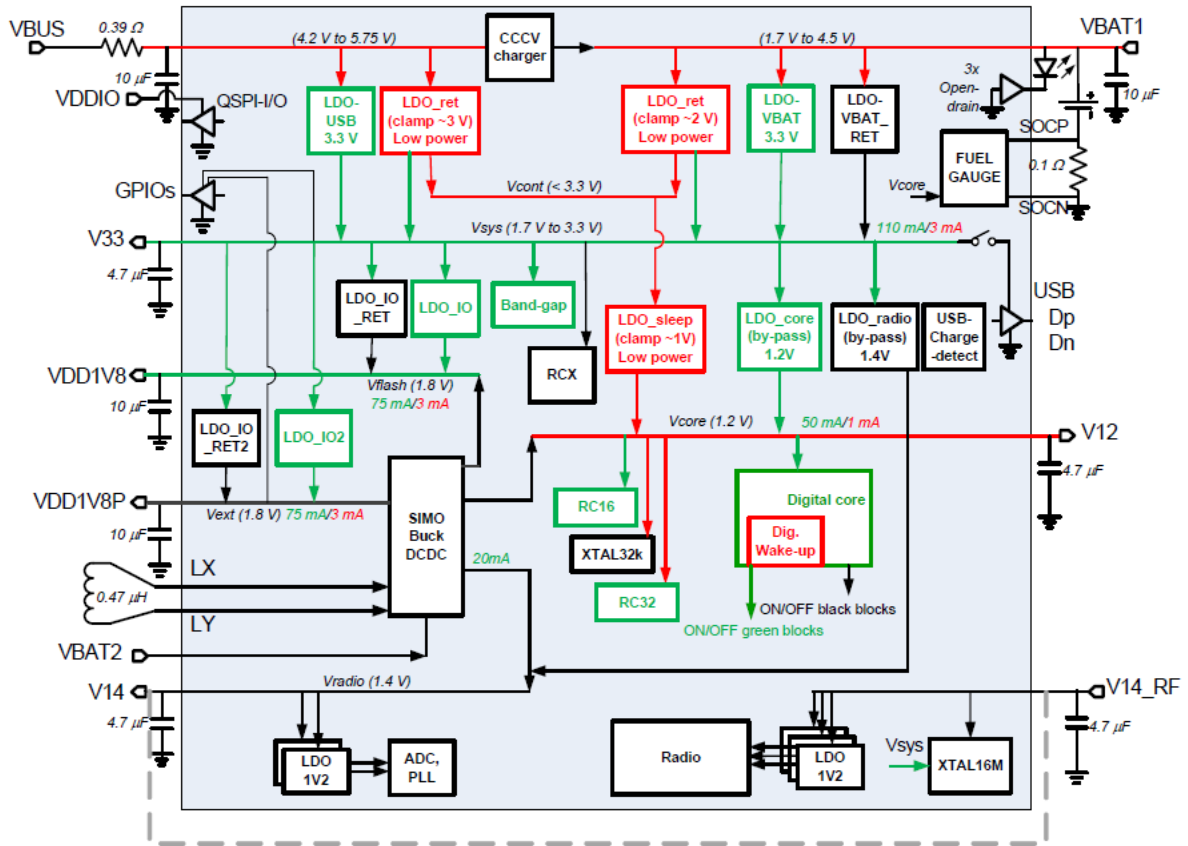

Figure 8: DA1468x power management unit block diagram
- The GPIOs supply-rail can be configured to 1.8V or 3.3V. When set to 1.8V, the GPIO is supplied from V18P, VDD1V8P. Whereas for 3.3V it is supplied from the 3.3V LDO, V33. Refer to Figure 8.